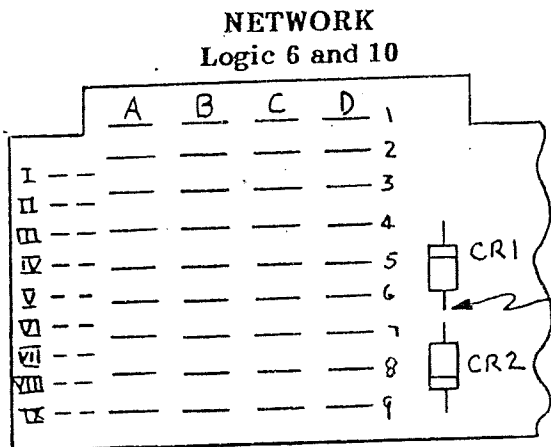

Figure 1
6. Locate Diode CR1 on back terminal board of telephone. CR1 is the top component. (See Figure 1).